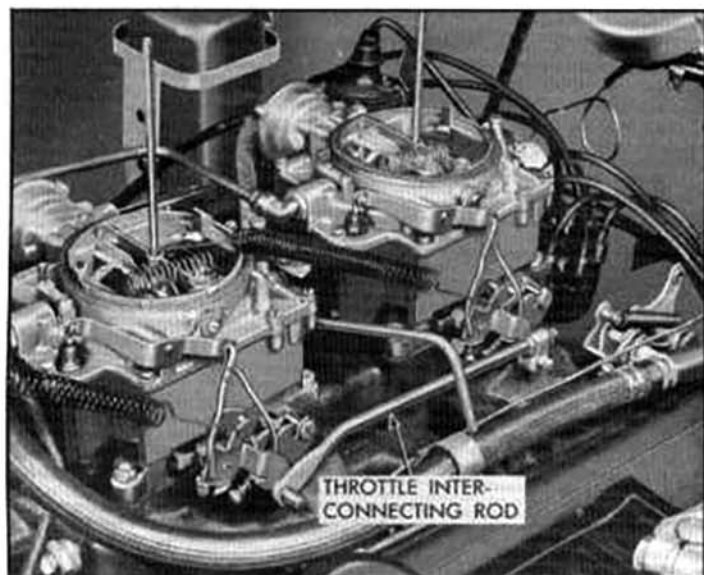

Fig. 3 Throttle Interconnecting Rod Installed
9. Adjust trunnion on end of throttle interconnecting rod so that rod can be installed over pins on carburetor throttle levers freely without changing throttle lever position. Install interconnecting rod over pins on throttle levers as shown in Fig. 3.